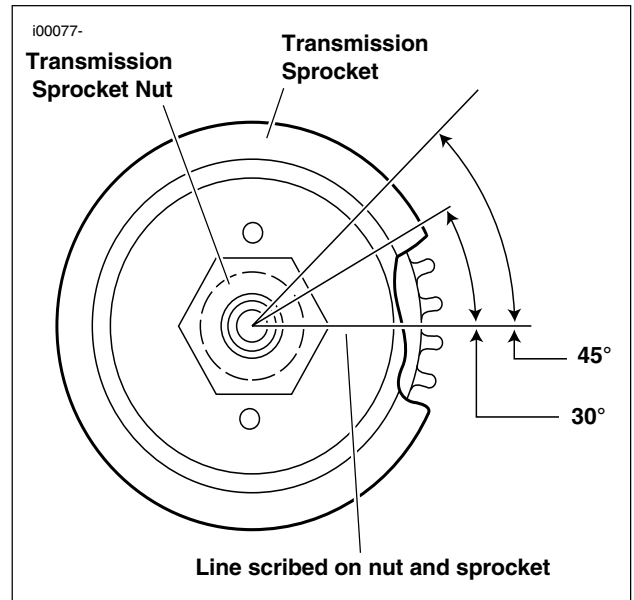

Figure 6-60. Aligning Transmission Sprocket
- b. See Figure 6-60. Scribe a line on the transmission sprocket nut and continue the line on the transmission sprocket as shown.
- e. See Figure 6-60. If lockplate will not align with holes, tighten nut to 45° maximum.